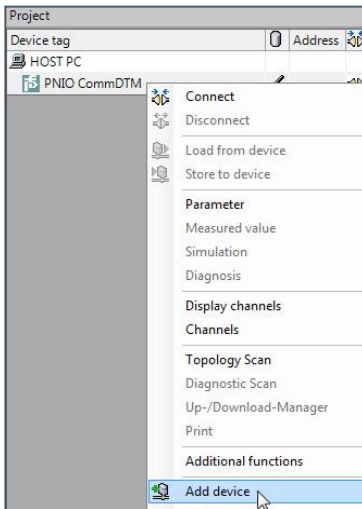

Figure 78: Search PROFINET gateway manually
- 1) Right-click **PNIO CommDTM**, then select **Add device** (see: Figure 78: Search PROFINET gateway manually).